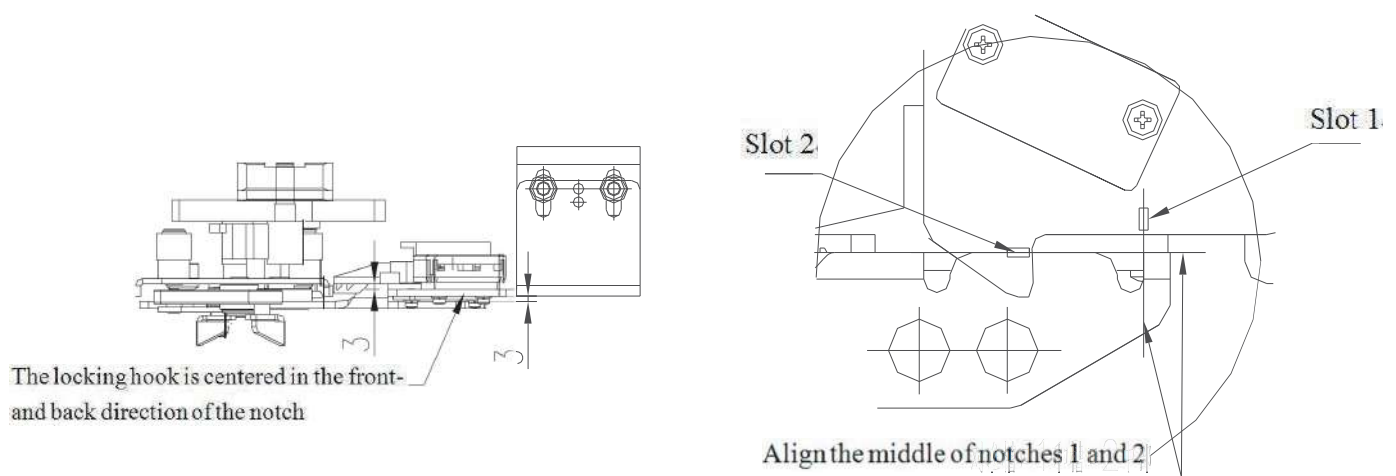

Figure 5-7-5
- 4) Bolted all the bolts after adjusting the fixed hook assembly to the state as shown in Figure 5-7-5.